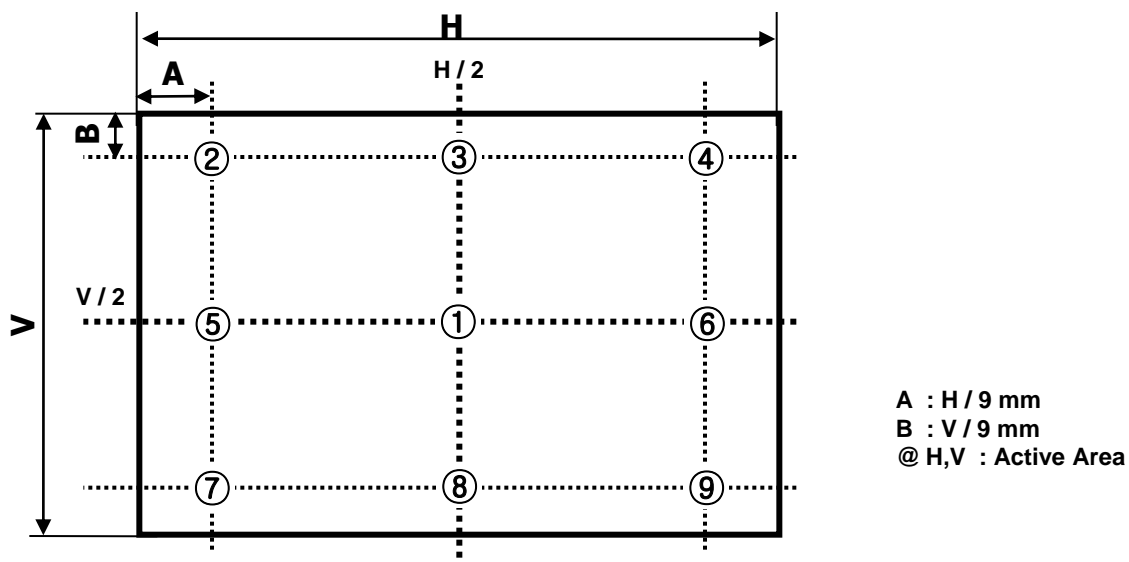

FIG. 2 9 Points for Luminance Measure
n = The Position number (1,2,3,4,5). For more information, see Fig 2.
2. Surface luminance are determined after the unit has been 'ON' and 1 Hour after lighting the backlight in a dark environment at $25 \pm 2^\circ\text{C}$. Surface luminance is the luminance value at center 1-point across the LCD surface 50cm from the surface with all pixels displaying white. For more information see the FIG. 2.
For more information, see the FIG. 2.